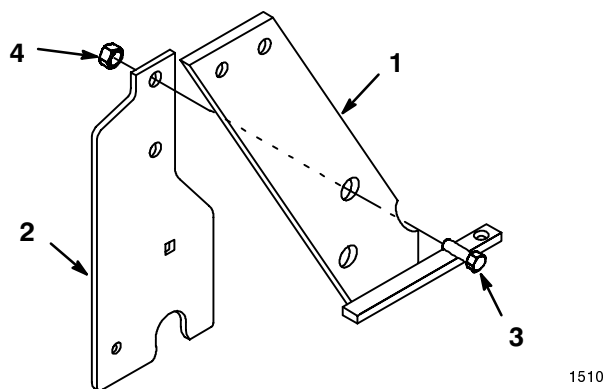

Figure 2
4. Assemble mounting plates to the inside of left and right hitch plates with 1/2 x 1-1/2" bolts (heads on the outside) and lock nuts (Fig. 2).